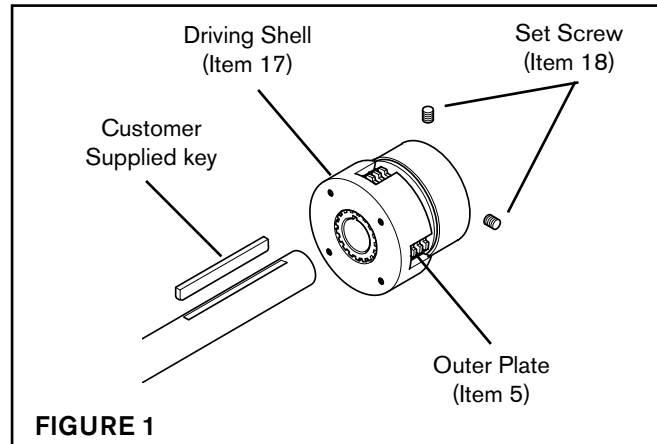

FIGURE 1
3. Insert the customer supplied key into the machine shaft (See Figure 1).
4. Slide the Multiple Disc Clutch onto the machine shaft (See Figure 1).
5. Install and tighten the two Set Screws (Item 18) securing the Multiple Disc Clutch to the machine shaft (See Figure 1).